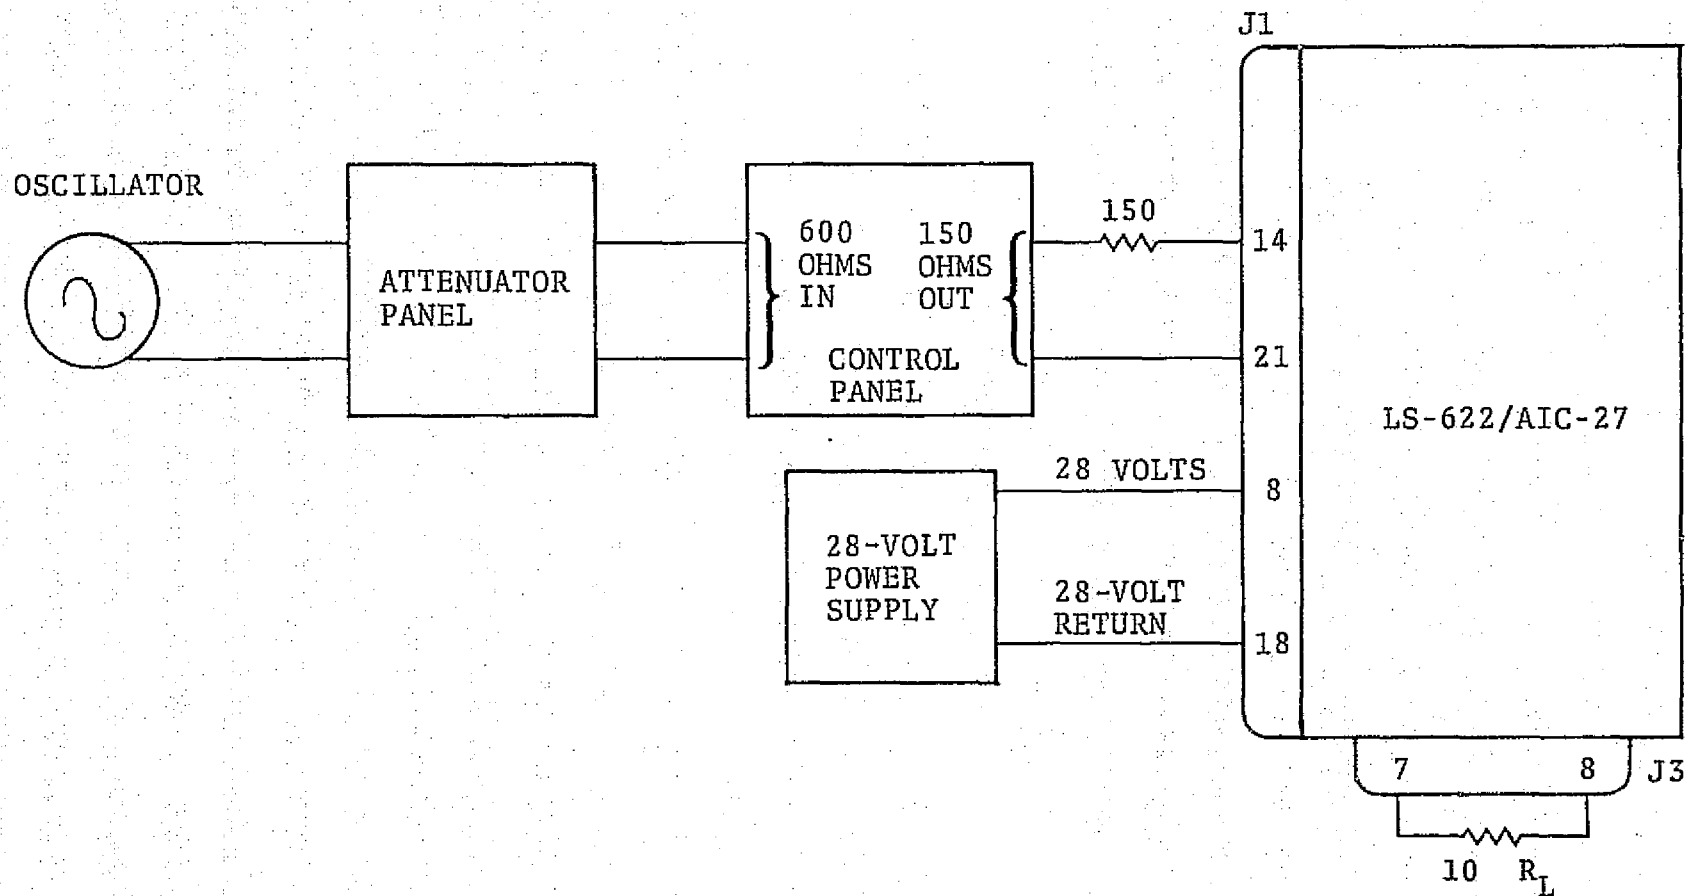

Figure 3-4. - Test setup: receive section.
1. Connect the equipment as shown in figure 3-4.